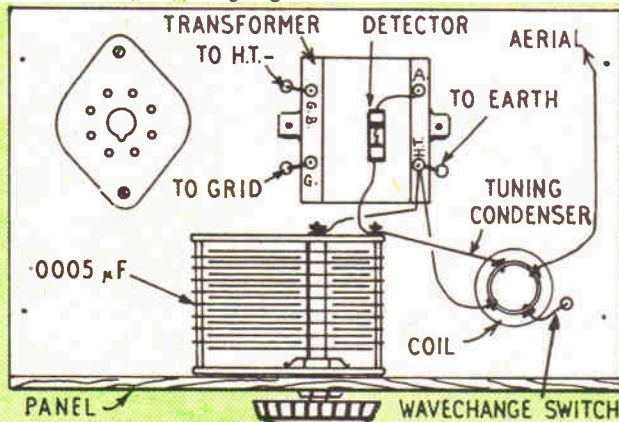

Fig. 3—Top wiring plan
The various parts can then be located as indicated in Figs. 3 and 4, and screwed in position. To reduce wiring to the minimum, no rear terminal or socket strip has been used. If one is fitted, it should have four sockets or terminals, for aerial, earth, and speaker connections.
and its secondary to H.T. negative and valve. Some transformers will have tags or terminals in different positions from that in Fig. 3. Others may simply have (P) to indicate the primary, and (S) to indicate the secondary. Others, again, have primary tags marked (OP) and (IP), and secondary tags marked (OS) and (IS). With the older type of transformer (which can give very good results), the primary is indicated by (A) (or P) and (HT), and the secondary by (G) and (GB), as in Fig. 3.
The coil does not require special mention, except to note that tuning condenser, wavechange, earth and aerial leads are suitably connected, as in Fig. 3.